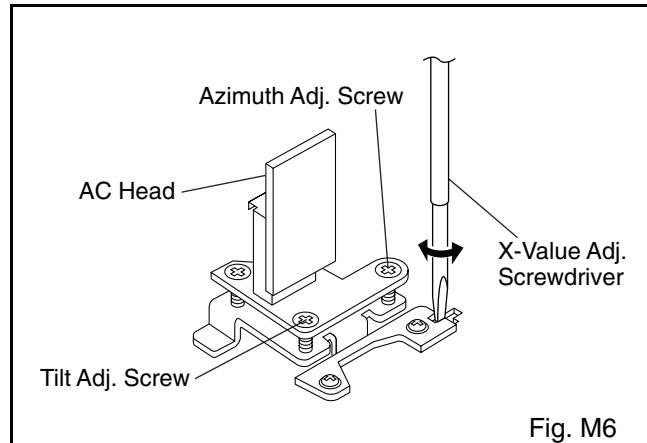

Fig. M6
4. If creasing or snaking is apparent, adjust the Tilt Adj. Screw of the AC Head. (Fig. M6)
4. Use the X-Value Adj. Screwdriver so that the PB FM signal at J139 (C-PB) is maximum. (Fig. M6)
3. Adjust Azimuth Adj. Screw so that the output level on the AC Voltmeter or the waveform on the oscilloscope is at maximum. (Fig. M6)